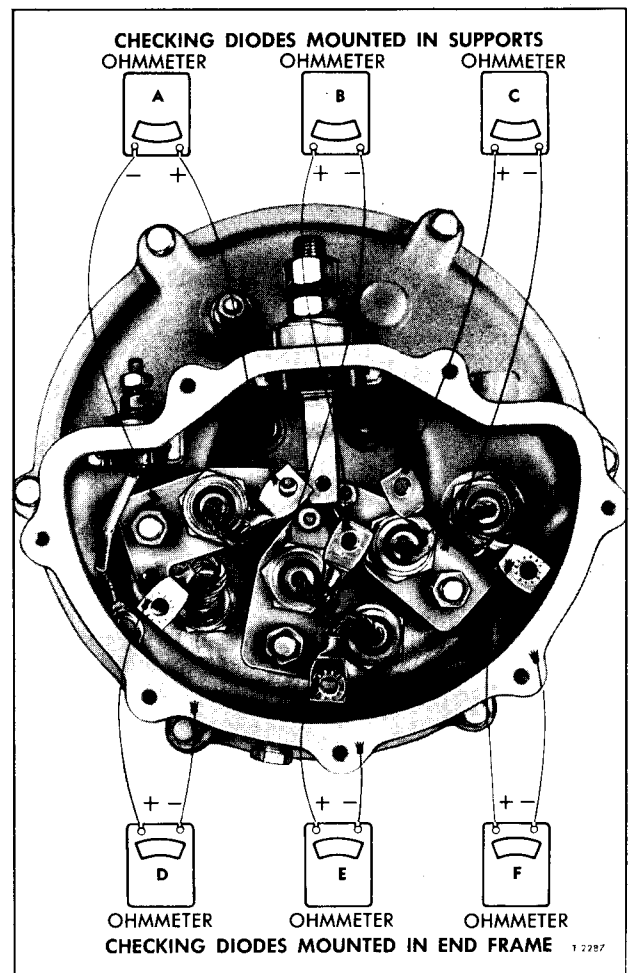

Figure 7—Checking Diodes For Shorts
3. Disconnect all diode flexible leads, three from output terminal stud and three from diode supports (fig. 7).
To check diodes mounted in supports, connect the positive lead of ohmmeter to each diode lead and the negative lead to each support as shown in parts A, B, and C of figure 7. If reading of 300 ohms or less is obtained, replace diode.
To check diodes mounted in endframe, connect the positive lead of ohmmeter to each diode lead and negative lead to end frame as shown in parts D, E, and F of figure 7. If a reading of 300 ohms or less is obtained, replace diode.